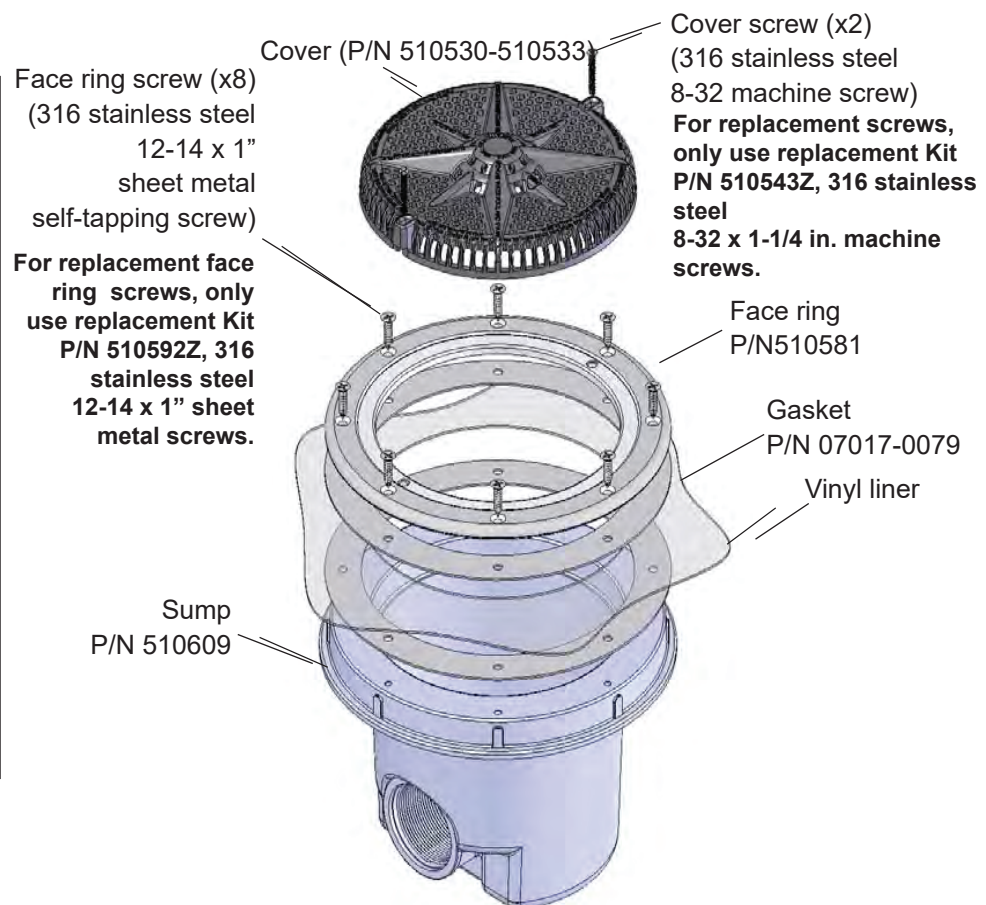

Figure 2
- Mount the main drain cover on top of the face ring/suction outlet. Rotate the cover until the screw holes are aligned (see Figure 2).
- Install the two (2) 316 stainless steel 8-32 machine screws (provided) into the holes in the top of the cover. Using a No. 2 Philips head screwdriver, tighten each retaining screw to a **torque value of 10.00 (minimum) to 15.0 (maximum) in-lbs** to secure the cover. **HAND START EACH SCREW. DO NOT OVER TIGHTEN THE SCREWS. DO NOT ASSEMBLE WITH POWER TOOLS.**